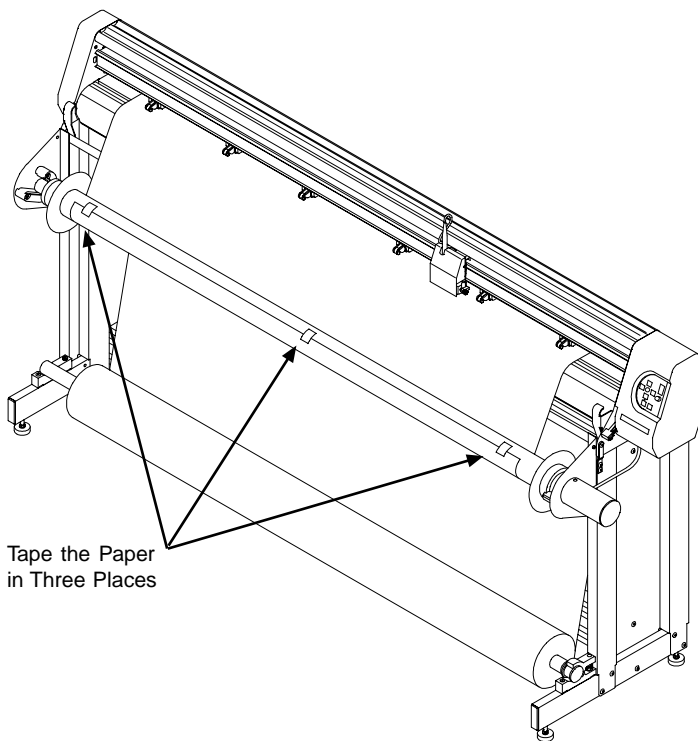

Figure 18. Taping the paper to the take-up shaft.
5. Tape the right and left ends (about 2" or 5 cm in from the edge) to the take-up shaft. See *Figure 18*.
7. If the paper is not long enough to be wrapped under the take-up shaft and taped to the front (see *Figure 18*) more paper must be pulled forward. Press the **Start/Stop** key until the LED turns red (**Stop** mode). Use the down **Arrow** key to pull enough paper to attach the middle of the paper to the center of the take-up shaft. Use masking tape to attach the right and left ends (about 2" or 5 cm in from the edge) to the take-up shaft.